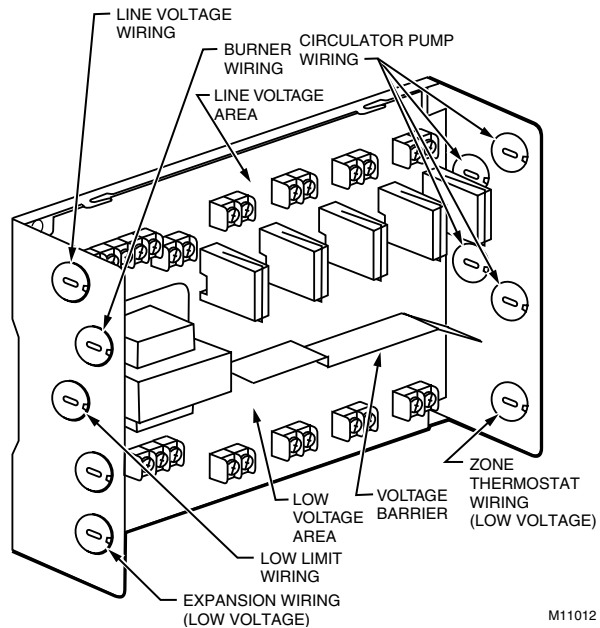
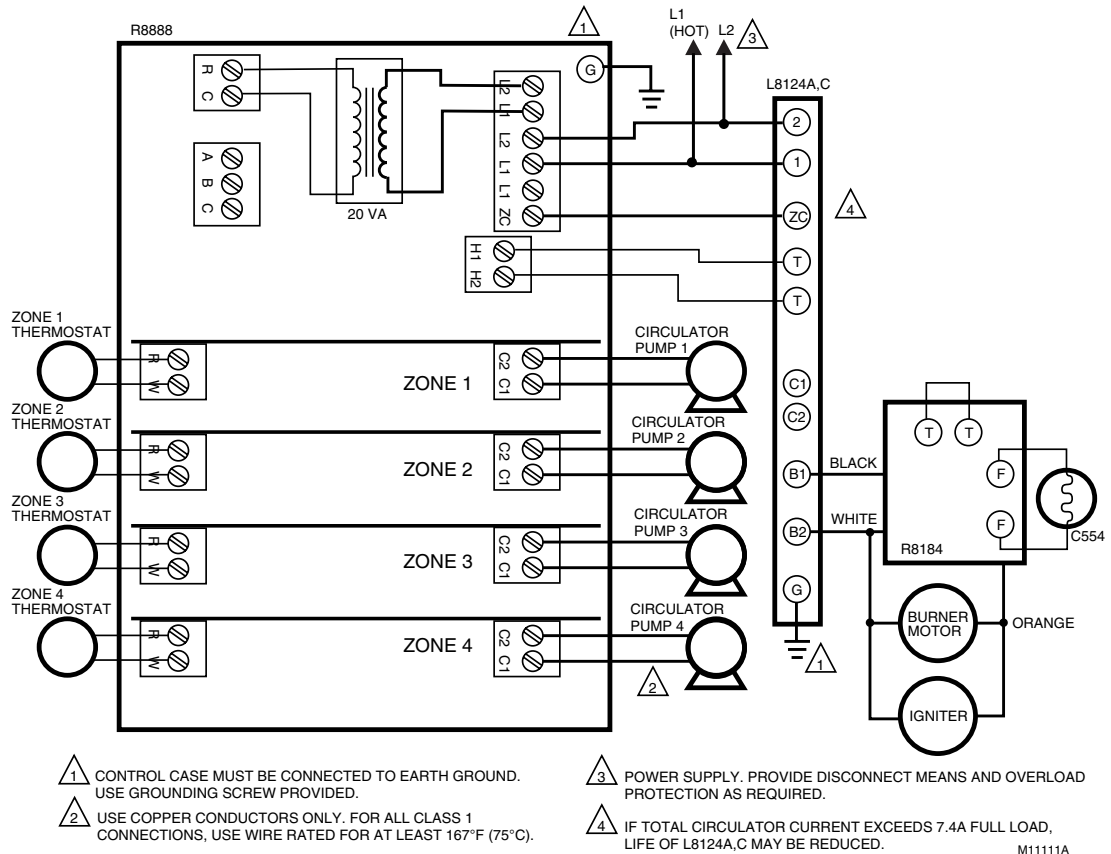

Fig. 4. R8888 knockout wiring designations.
Fig. 5. Typical hookup for R8888 in oil-fired, tankless zoned systems with L8124A,C Aquastat® Controller.
Run wiring from the system components to the R8888 location. Make wiring connections as shown in Table 1 and Fig. 5 through 14. Make sure all line voltage connections are in the R8888 enclosure. Keep line voltage wires away from R8888 low voltage area as shown in Fig. 4. Use the plastic bushing (included) in the knockout for the thermostat wiring to avoid damaging the thermostat wires. See Fig. 4.
*The R8888 has knockouts on both sides of the case. Only specific wiring must be run through each knockout. See Fig. 4.*
### Tankless Coil Boiler Operation (Fig. 5)
When wiring additional R8888s, connect the wires from the three expansion terminals (A,B,C) on one zone panel to the expansion terminals on the next zone panel. For each panel added, connect an R845A as shown in Fig. 14 to maintain the low limit function. Run wires through the knockouts on the sides of the zone panels (see Fig. 4).